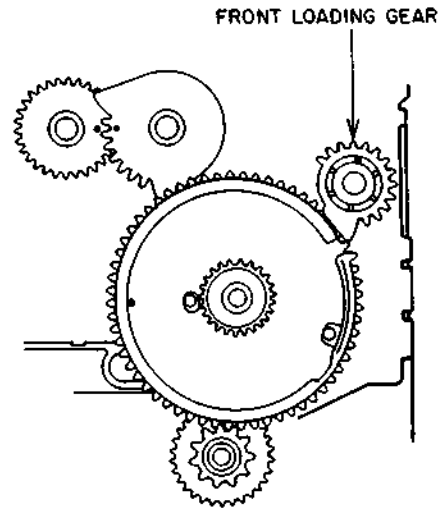
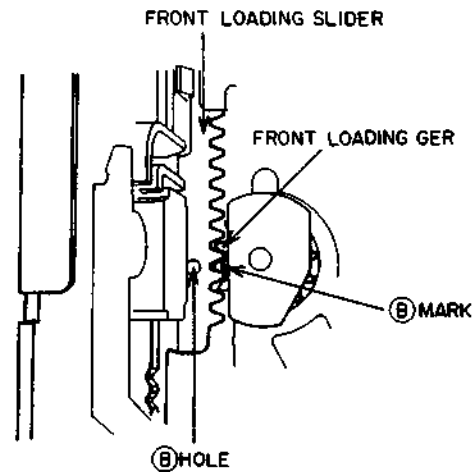

Fig. 4-12
Fig. 4-13
- 3) Attach the FRONT LOADING GEAR as shown in Fig.4-12. At this time, align the (B) mark on the FRONT LOADING GEAR with the (B) hole of the FRONT LOADING SLIDER as shown in Fig.4-13.